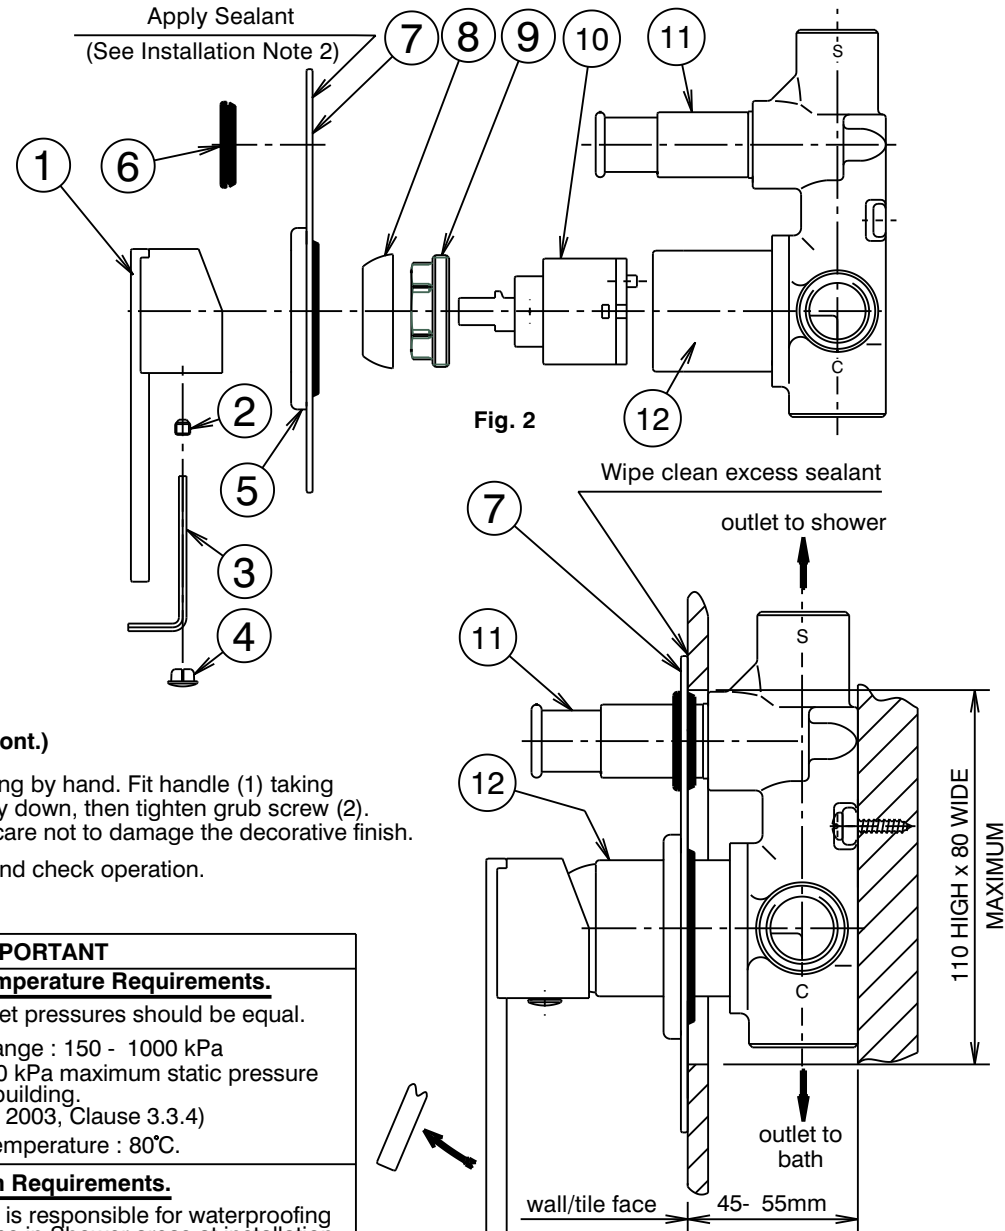

Fig. 1
Installation (Fig. 1 & 2)
- * Mixer body (12) must be installed square to wall/tile face, to ensure cover plate (7) sits flush.
- 2) Ensure seal (6) is fitted in cover plate (7). Apply a suitable clear sealant to the back face of the cover plate (7) to prevent water from entering the wall cavity, leaving an unsealed section at the bottom for drainage. (See Fig. 2). Carefully slide the cover plate (7) together with trim cover (5) & seal (6) onto the diverter sleeve (11) and mixer body (12), push firmly on the trim cover (5) & seal (6) until cover plate (7) contacts the wall/tile face & sealant has formed a waterproof joint. Wipe clean any excess sealant from the chrome surfaces & the wall/tile face. (See Fig. 1)
- 3) Fit handle (1) as shown, taking care that it is pushed fully down, then tighten grub screw (2) using 2.5mm allen key (3). Insert plug (4) taking care not to damage the decorative finish.